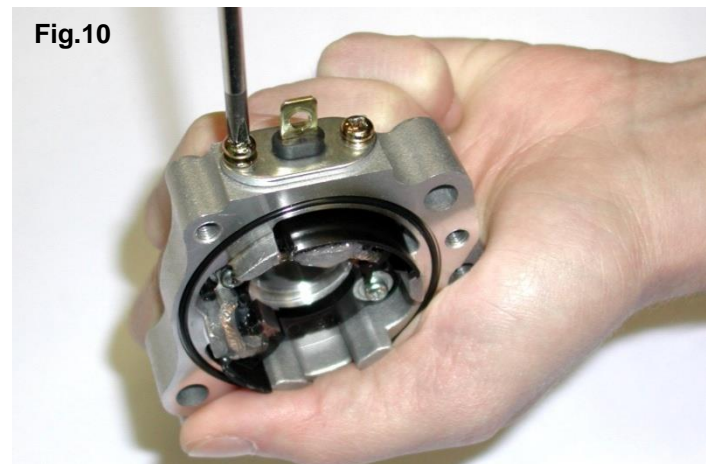

Fig.10
- UNSCREW THE 2 SCREWS M4 "D" RETAINING THE PLATE "E" (see Fig.10).